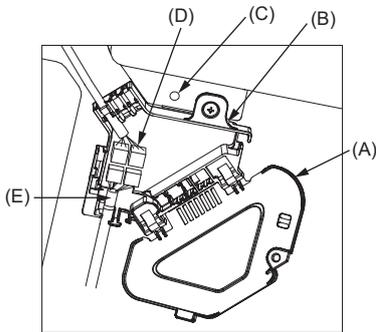

Fig. 6-9
- (1) Remove the one screw securing the connector box cover, slide the cover in the direction indicated by the arrow as shown in the diagram, and then open the cover.
- (2) In the connector box, locate the junction wire for the vane motor of the grille and the wire for the vane motor, and then connect the wires. (Fig. 6-9)